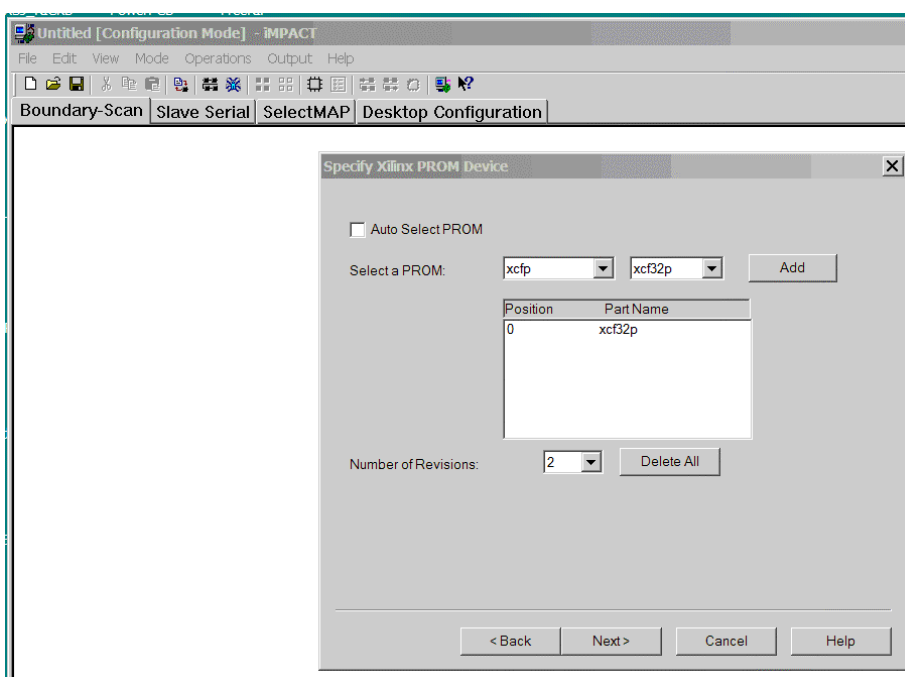

Figure B-4: Selecting an XCF32P PROM with Two Revisions
6. Select the XCF32P PROM from the drop down men. Click on the “Add” button and specify “2” from the Number of Revisions drop down menu as shown in Figure B-4.